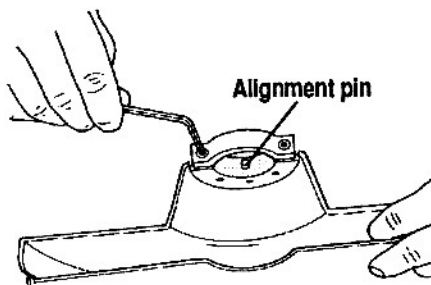

Fig. 37
48. Use a 5/32" Allen wrench to remove the two capscrews (192) attaching the guard clamp (188) to the guard, as shown in Fig. 37. Place the lower saw guard through the opening in the cabinet back.